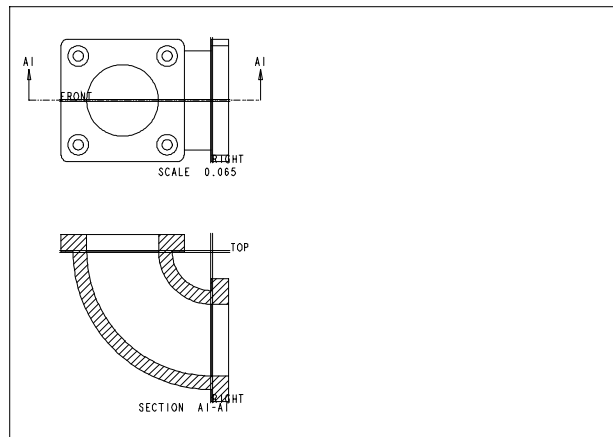

Figure 11-50 Drawing sheet after generating the top view and the sectioned front view with the display of datum planes
- b. Generate the top view, refer to Figure 11-50.
- c. Generate the sectioned front view by defining the **FRONT** datum plane as the section plane, refer to Figure 11-50.
5. Choose **OK** to exit the **Drawing View** dialog box. If necessary, move the view, as shown in Figure 11-50, and choose **No Hidden** from the **Model Display** toolbar. You may also need to repaint the screen.
2. Specify the center point for the placement of the front view below the top view, as shown in Figure 11-50.
4. Click once in the drawing area to remove the X-hatch from the current selection set. The sheet, after placing these two views, should look similar to the one shown in Figure 11-50.